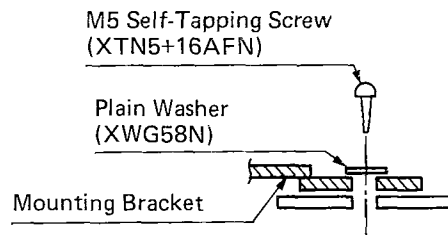

Fig. 1.10
- (a) Mount the booster charger to the vehicle using M5 self-tapping screws. (Refer to Fig. 1.10.)